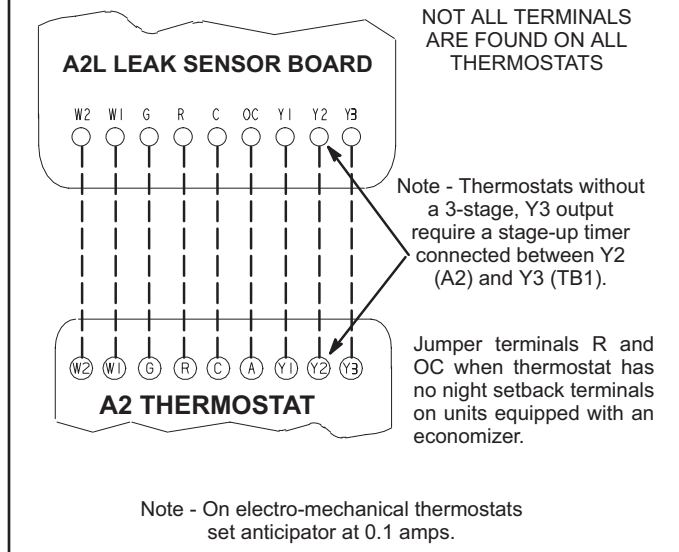

FIGURE 5
- 3 - Connect thermostat wiring to screw terminal strip labeled P1 on the Refrigerant Leak Sensor Board located near the center top of the control panel. Wire as shown in FIGURE 5 for electro-mechanical and electronic thermostats. If using other temperature control devices or energy management systems see instructions and wiring diagram provided by manufacturer.